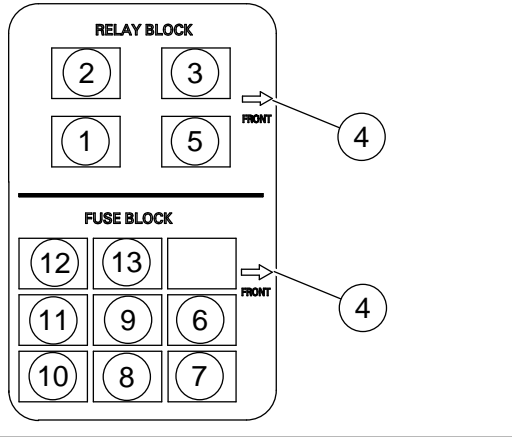

Figure 45. Relay and Fuse Identification
4. See Figure 45. Remove the suspect fuse and inspect the element.